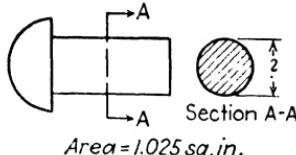

Fig. 79.
- A steel rivet has a cross-sectional area of 1.025 sq. in. What is its diameter (see Fig. 79)?